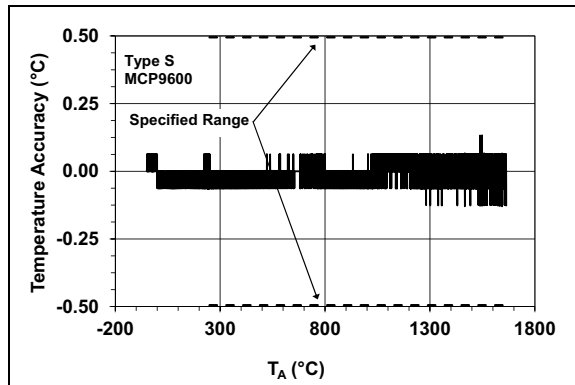

FIGURE 2-7: Typical Temperature Accuracy from NIST ITS-90 Database, Type S.
- Note 3:** The device measures temperature below the specified range, however, the sensitivity to changes in temperature reduces exponentially. Type R and S measure down to $-50^{\circ}C$, or -0.226 mV_{EMF} and -0.235 mV_{EMF} , respectively. Type B measures down to $500^{\circ}C$ or 1.242 mV_{EMF} (see Figures 2-7, 2-8, 2-10, 2-11, 2-14 and 2-17).